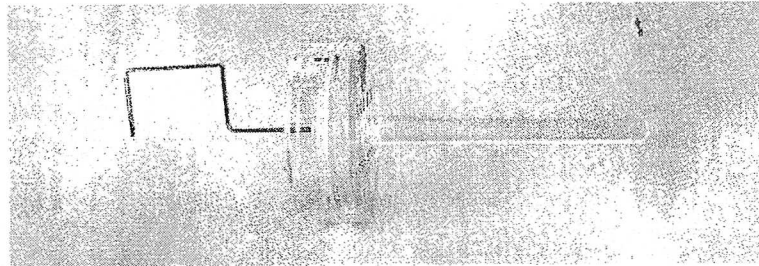

Fig. 8
- 4.3. If necessary, correct the rate by means of the timing nuts, see page 14, with the Microstella key Ref. 2019, see Fig. 8.